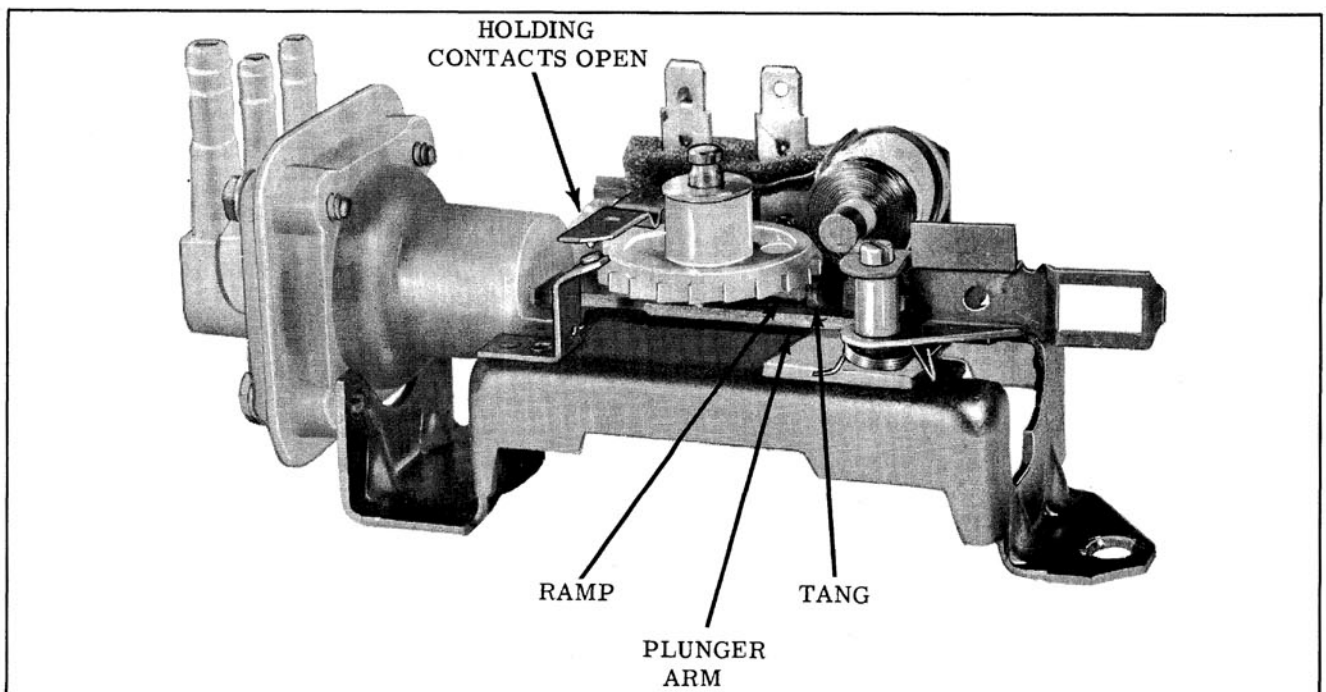

Fig. 13-151 Pump Lockout Position
The pump is in the "lock-out" position when the relay holding contacts are open and a tang on the plunger arm rests against the widest part of an eccentric ramp on the bottom of the ratchet wheel. The tang holds the bellows plunger arm in a retracted position (bellows spring compressed) allowing the plunger arm pin to move back and forth in the plunger arm slot preventing pumping action. (Fig. 13-151)
As the ratchet wheel rotates, the tang on the bellows plunger arm starts to ride up the eccentric ramp on the lower surface of the ratchet wheel. The full "lock-out" position of the pumping mechanism is reached when the tang is up on the widest part of the ramp. (Fig. 13-151) The tang reaches the "lock-out" position at the same time the relay coil holding contacts open.
2. If relay and ratchet pawl perform correctly in Step 1, manually actuate the washer pump to rotate the ratchet wheel one tooth. Observe if relay holding contacts close and the pump plunger arm is released from its lock-out position. Figure 13-151 shows plunger in lock-out position.
4. If pump performs correctly in Step 3, continue to manually actuate the slide and ratchet pawl assembly until the ratchet wheel has been turned through 360° or 21 teeth. After the ratchet wheel has been rotated 21 teeth, the holding contacts should be opened by a "hump" on the wheel and the pump plunger arm should be in the "lock-out" position. (Fig. 13-151)